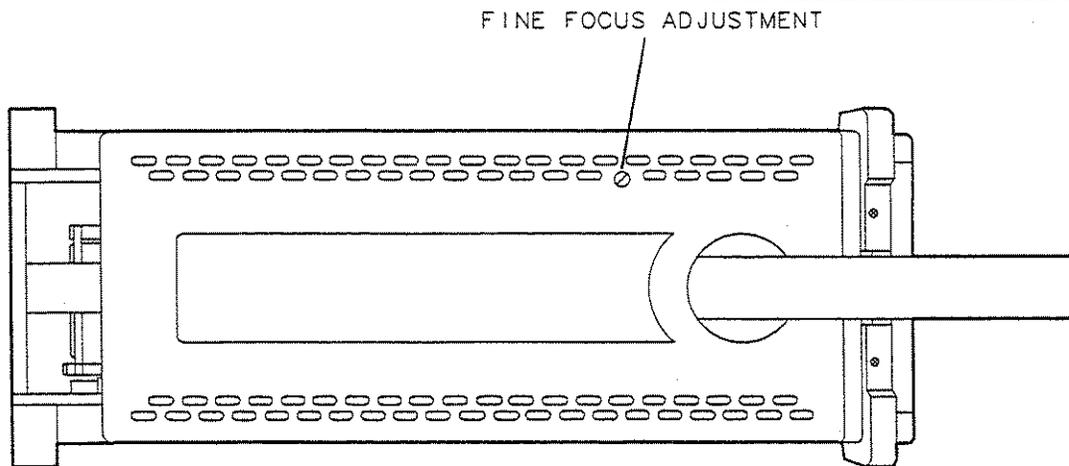

Figure 1-3. Adjusting the Fine Focus
2. Use an adjustment tool or small screwdriver to access the fine-focus adjustment. See Figure 1-3. Adjust for a focused display.